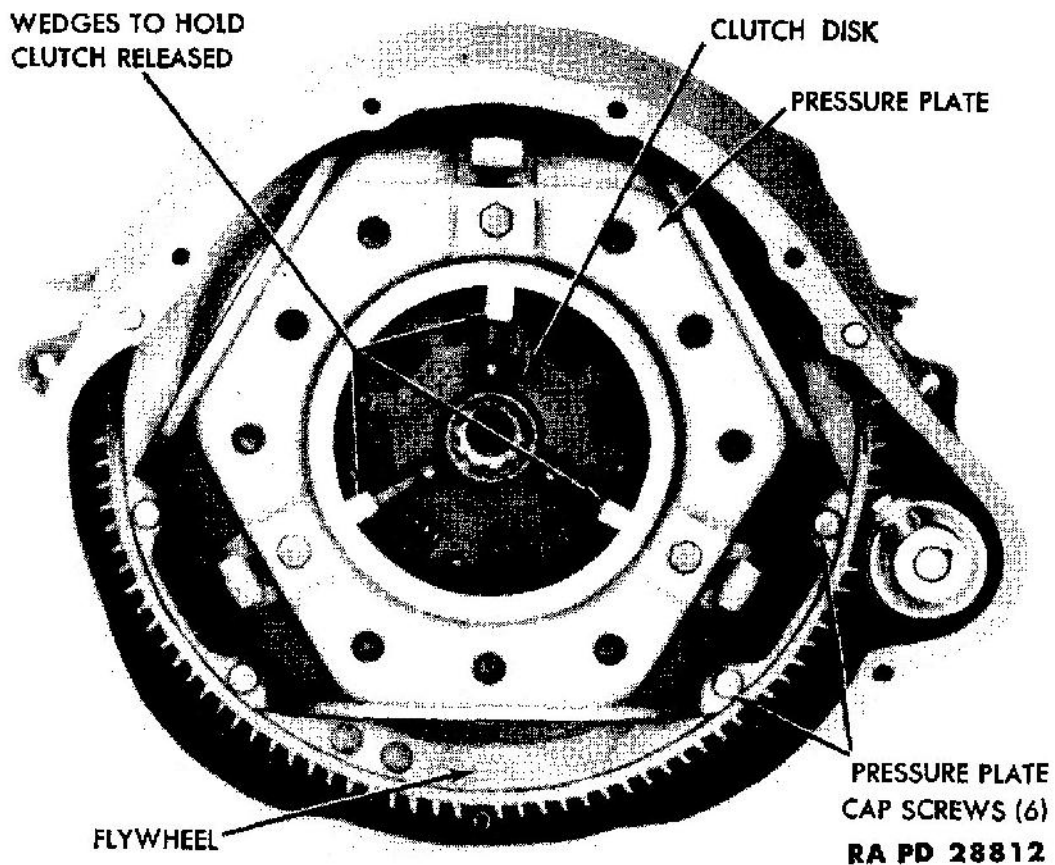

Figure 47 — Clutch — Rear View
a. **Description.** The engine is equipped with a semi-centrifugal dry-type single plate clutch (fig. 47) controlled through direct linkage. The clutch pressure plate is adjusted and the release levers locked at the factory. No adjustment is required other than to maintain the correct clearance between the release fork and the release bearing as outlined in paragraph 100.
b. Removal. Remove the transmission from the vehicle (par. 108 a). Release the clutch by installing three wedges between the clutch fingers and the pressure plate housing, as shown in figure 47. Remove the six cap screws holding the pressure plate to the flywheel and remove the pressure plate and disk.